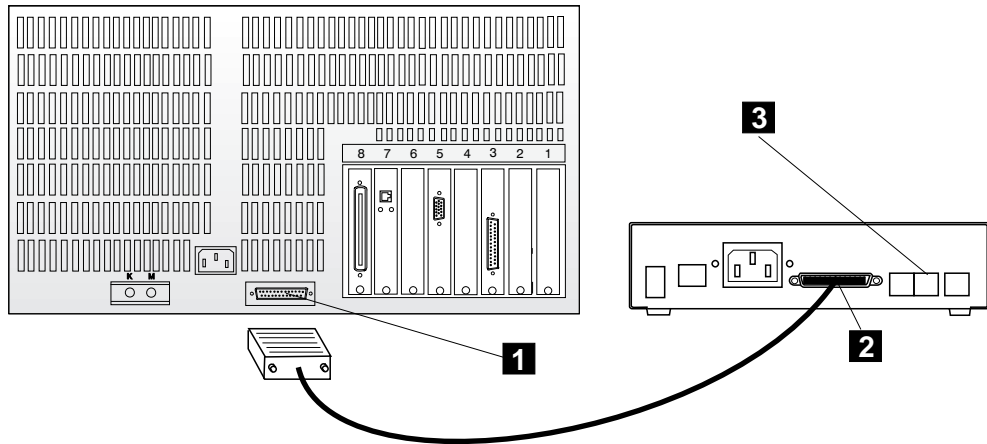

Figure 1-69. Connecting the Service Processor (3172) from COM1 to the 7858
- **3172**, refer to Figure 1-69 on page 1-62